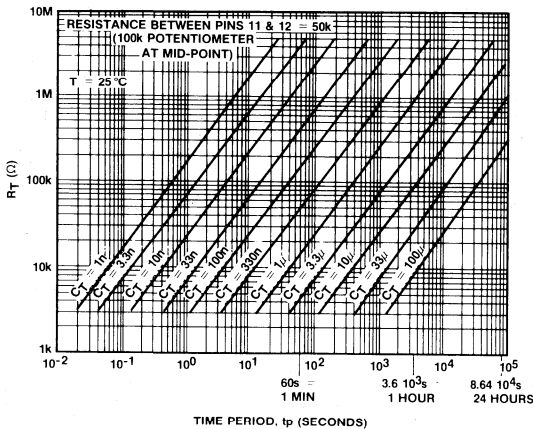

Fig.6
The graph, Fig.6, gives an idea of the values of timing components necessary for a given time period. It is plotted assuming a $100k\Omega$ variable resistor between pins 11 and 12 is set at mid-point. The periods obtained with the timing components selected from the graph may be trimmed with the variable resistors to the exact time required.
- $T_{P(MIN)} = 1.5$ seconds from graph, Fig.6
- and $T_{P(MAX)} = 10$ minutes from graph, Fig.6
Fig.6 shows that for the maximum time of about 100 seconds R_T is required to be about $5M\Omega$ and the value of C_T to be between $3.3nF$ and $10nF$.